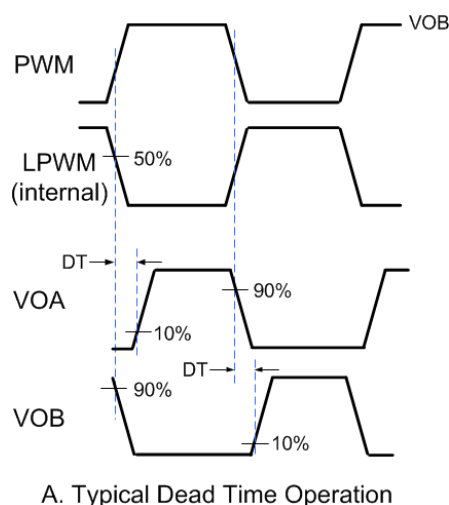
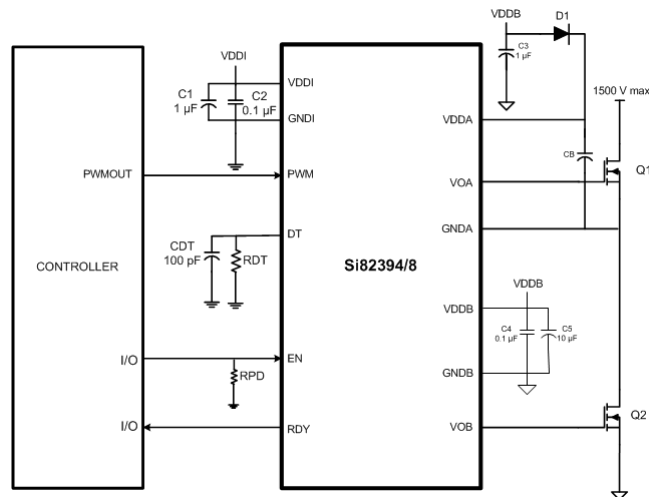

Figure 2.18. Dead Time Waveforms for High-Side/Low-Side Drivers
Figure 3.2. Si82394/8 Application Diagram
All high-side/low-side drivers with a single PWM input (Si82394/8) include programmable dead time, which adds a user-programmable delay between transitions of VOA and VOB. When enabled, dead time is present on all transitions. The amount of dead time delay (DT) is programmed by a single resistor (RDT) connected from the DT input to ground per the equation below. Note that the dead time pin should be connected to GND1 through a resistor between the values of 6 k Ω and 100 k Ω and a filter capacitor of 100 pF in parallel as shown in Figure 3.2 Si82394/8 Application Diagram on page 18. It is highly recommended it not be tied to VDDI. See Figure 2.18 Dead Time Waveforms for High-Side/Low-Side Drivers on page 17 below.